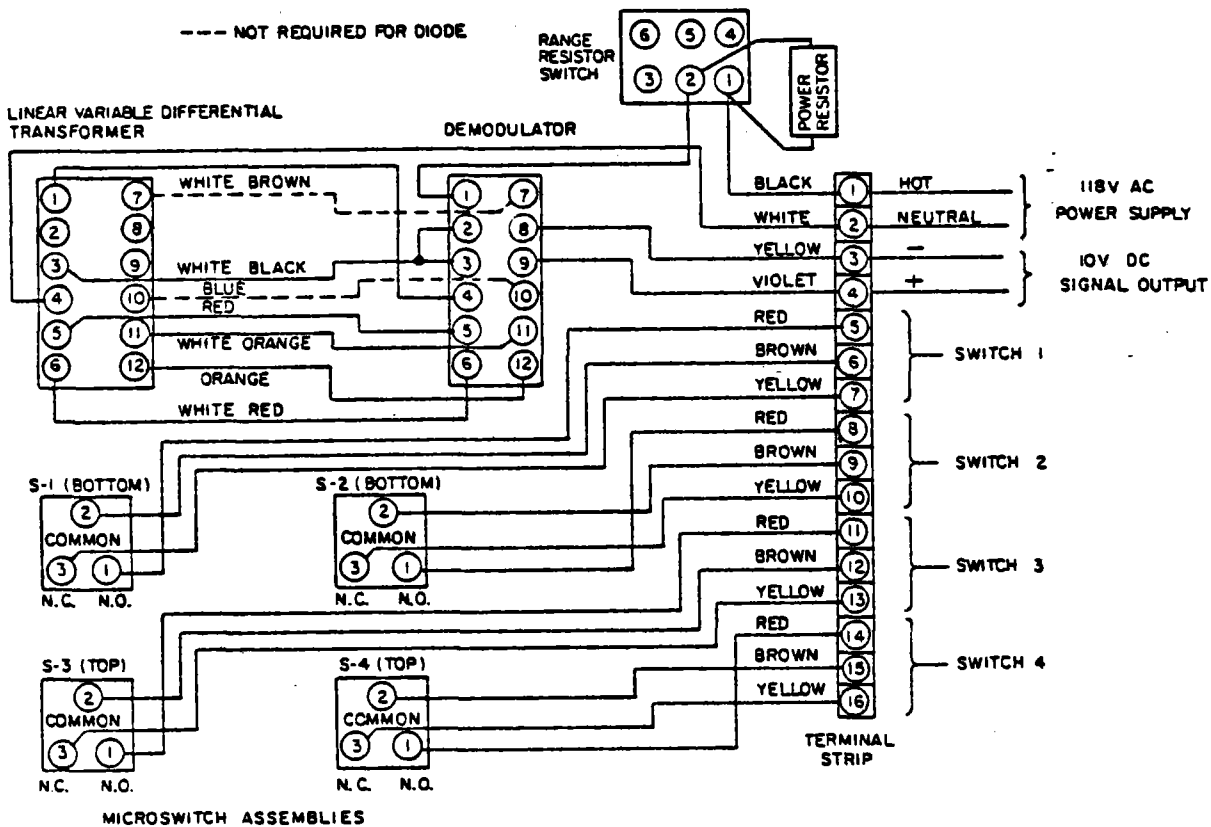

FIGURE 11 - Position Transmitter Wiring
1. Connect a DC voltmeter across output leads at Position Transmitter terminal block terminals 3 and 4 (refer to Figure 11). Supply 118 volts AC to Transmitter (terminal block terminals 1 and 2). Set zero adjustment in approximately midtravel position.
3. Interchange leads to terminals 5 and 12 and to terminals 6 and 11 on LVDT assembly (see Figure 11).